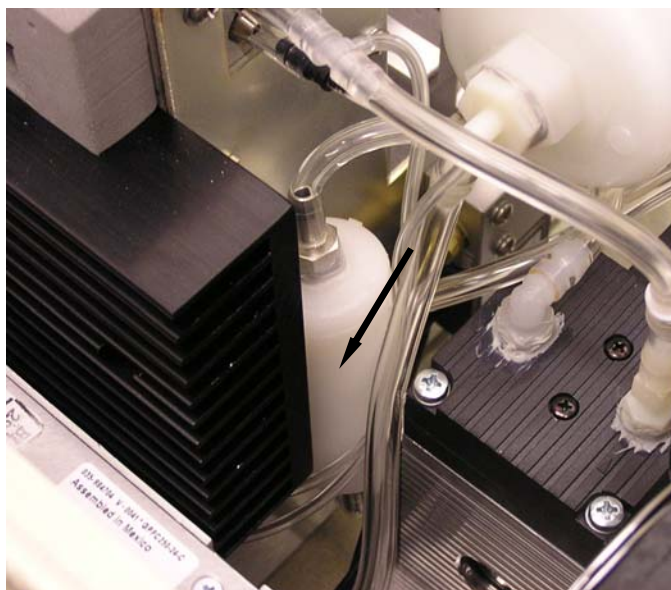

Figure 8-3
The Bypass air filter is identified in Figure 8-3 and is referenced in the schematic, Figure 5-1. This filter is used to protect a variable orifice controlling flow at a nominal 1.2 L/min. The Bypass filter is used during the high-flow operation mode. This filter is generally not replaced unless the instrument sample flow is compromised as the filter loads.
3. Locate the filter in Figure 8-3. Before replacing the filter note the direction arrow on the filter. It points to the 3-way solenoid valve that controls the inlet flow operation mode.
Inlet flow in the high flow mode may be reduced if the bypass filter is loaded. The bypass filter is shown in Figure 8-3. Prior to adjusting the bypass/makeup air variable orifice, replace the bypass filter. To adjust the bypass/makeup air flow, perform the following operations.